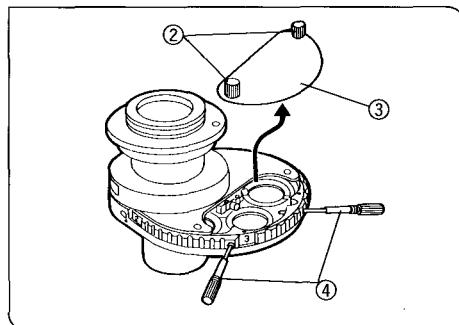

Fig. 22
(Figs. 22–26)
- Position the condenser as shown in Fig. 22. Loosen the two clamping screws (2) and remove the cover (3).
- Put the turret insert centering wrenches (4) into the designated insert centering holes and turn the wrenches counterclockwise. (Fig. 22)